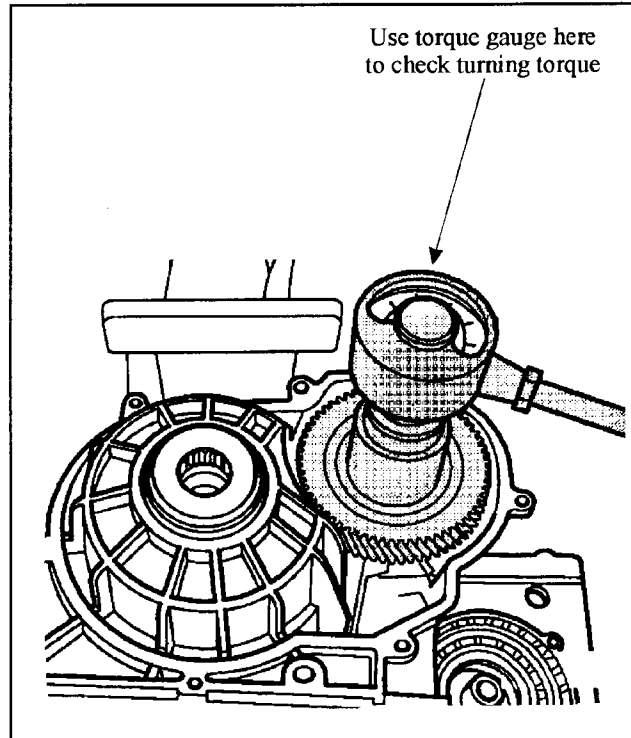

Figure 119
2. The turning torque for new tapered roller bearings on the transfer driven gear should be between (7.1 and 10.6 in.lb.) (See Figure 119 ).